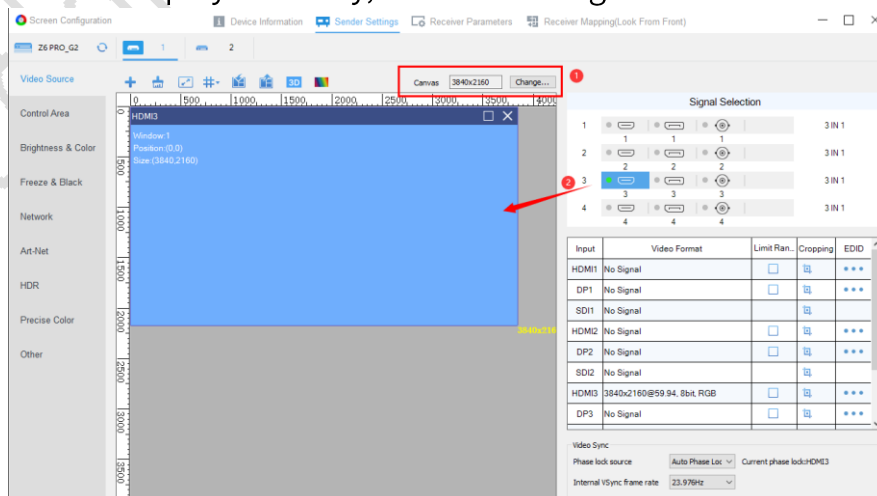

Fig 2.2.1 Video source settings
Step 3: Select the signal source to be displayed, then drag it to the canvas area to make it display normally, as shown in Figure 2.2.1.